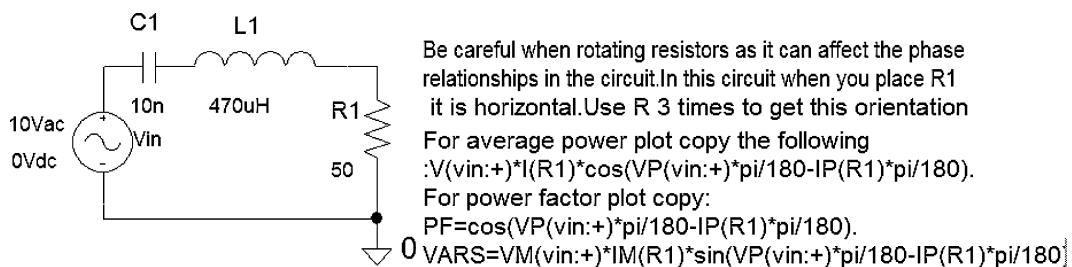

FIGURE 6.39: Power factor correction
The circuit in Fig. 6.39 is used to investigate power factor (PF) correction as demanded by the electricity suppliers. We use the **Trace Expression** facility in Probe to plot certain mathematical expressions for the power in the circuit. The instantaneous power in a passive load is the product of the instantaneous load current and load voltage. For a sinusoidal signal, the power is